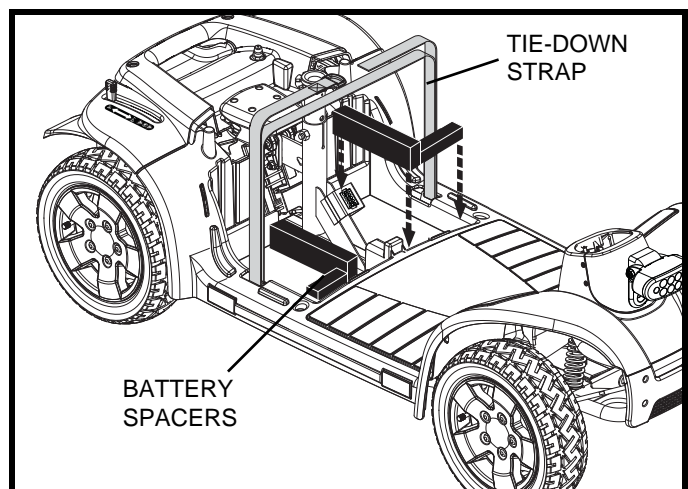

Figure 25. Battery Spacers
**NOTE:** If spacers are installed to secure the batteries, remove the spacers for safe keeping until the scooter is assembled again. See figure 25.
6. Reinstall the battery spacers if applicable. **See figure 25.**